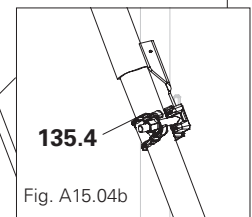

Fig. A15.04b
3. Loosen the bottom coupling (**135.4**) and extend the multi brace until the required support angle of $\alpha \leq 60^\circ$ has been reached. Tighten the bottom coupling. (Fig. A15.04b)